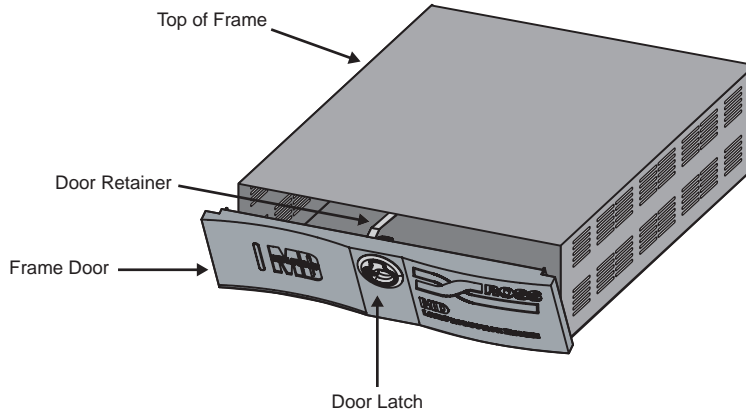

Figure 3.2 Frame Door Overview (MD Shown)
1. Gently pull the door latch out and up, releasing the door from the top of the frame (**Figure 3.2**). The door retainer prevents the door from falling.